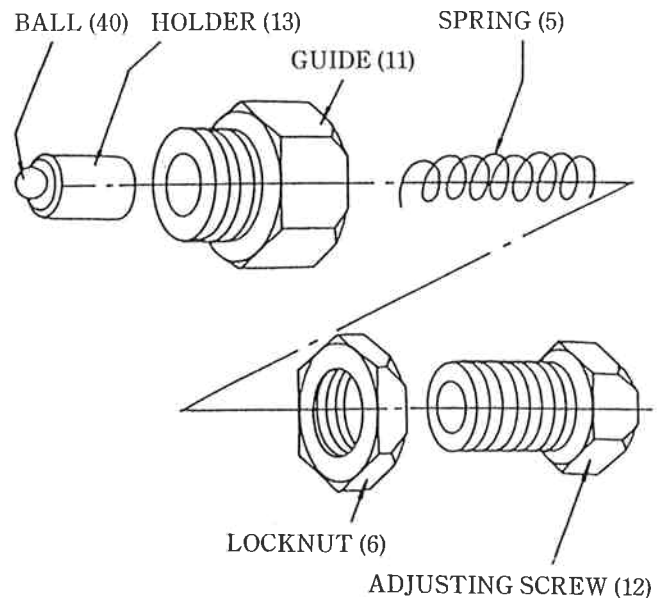

Fig. 3-3 Assembly of Detent Assembly
7. Install housing (24) to body (8) with socket bolt (30), and tighten the bolt with 5 kg-m (36 ft-lbs) of torque.
8. Insert cams (4) into housing (24). Lightly tapping with a plastic hammer, insert pin (10). At this time, pay attention to the direction and position of the cam.
9. Apply Loctite #262 to screws (30), and tighten them with 1.2 kg-m (8.7 ft-lbs) of torque.
10. Referring to Fig. 3-3, assemble the detent assembly.